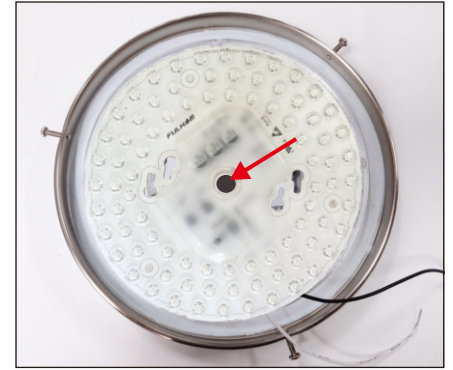

Figure 2
Drill a Ø0.43" (Ø11mm) hole in the center of the luminaire housing. Center the DirectAC Engine (A) in the luminaire so that the line voltage cables are aligned with the new hole in the luminaire. See figure 2.